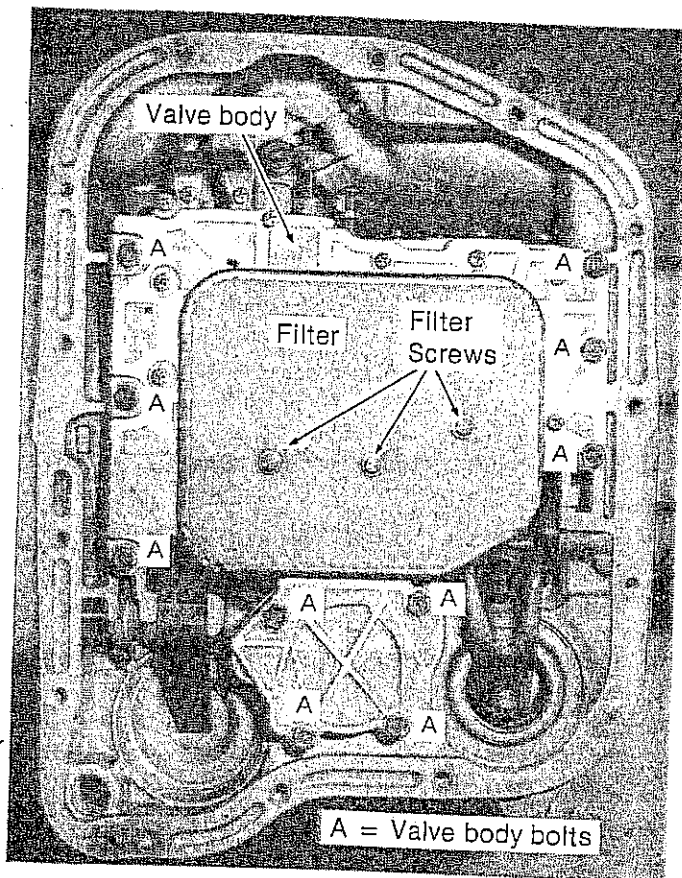
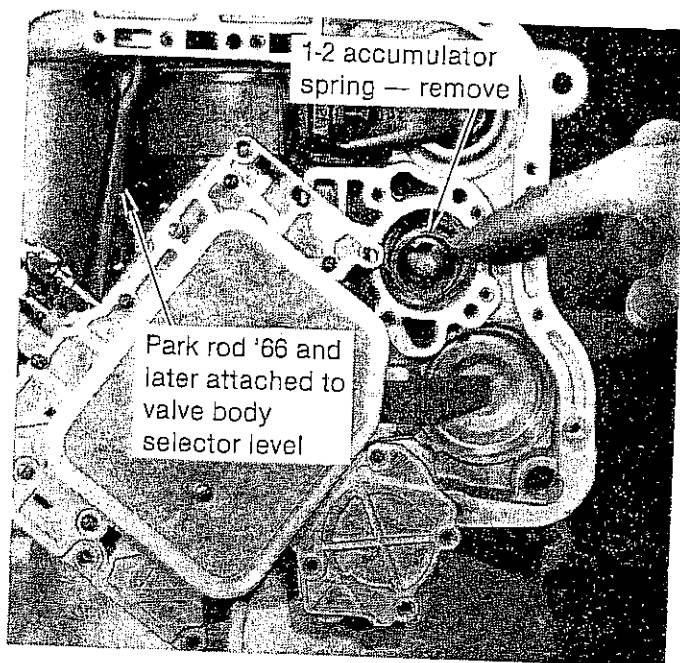
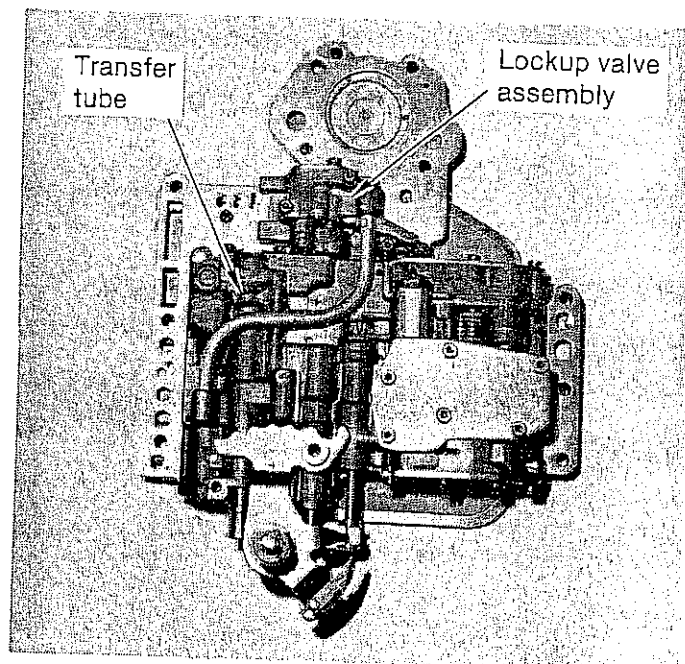

FIGURE 5
FIGURE 6
FIGURE 7
**1978-'79 Lockup:** This kit is for all '62-'77 & '78-'79 non-lockup torque converter transmissions. **Do not use with 1978-'79 lockup transmissions.** Lockup or non-lockup can be identified by removing inspection cover on transmission bellhousing and reading small decal on front cover of torque converter. Lockup converter will read "LS Lockup" or "HS Lockup" while non-lockups will read "Lo Stall" or "High Stall." If decal is missing remove pan and valve body for identification. (See Fig. 7.)
**STEP 2.** Remove ten 1/4" bolts holding the valve body in place. (See Fig. 5) Remove the last bolt carefully as there is a large spring between the valve body and the case. (See Fig. 6) Remove the valve body. On '66 and later models it may be necessary to turn the output shaft to free the park rod. Set the valve body aside. 1978-'79 lockup valve bodies can be readily identified by Lockup Valve assembly and transfer tube. (See Fig. 7). This kit is not to be used for this application.